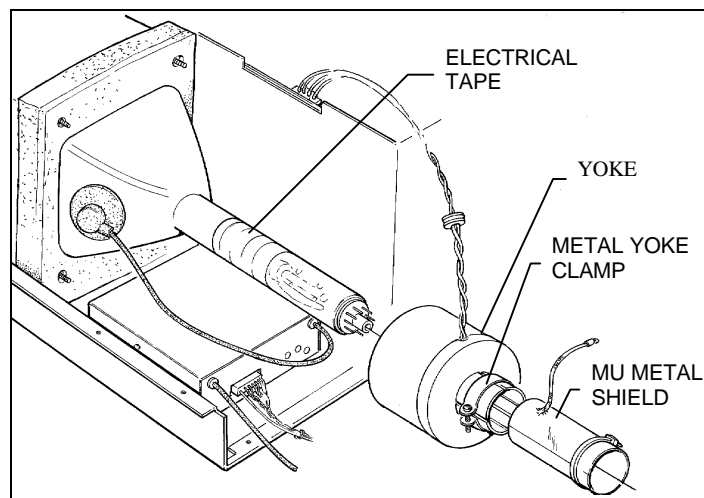

Figure 6-26. Disassembling the CRT
1. Slightly twist and remove the round mu metal shield from the tube. (This shield has a ground cable and tie wrap attached, which should be left in place.) Some hot melt adhesive will be left in the shield. Remove the hot melt inside the shield. (Figure 6-26)